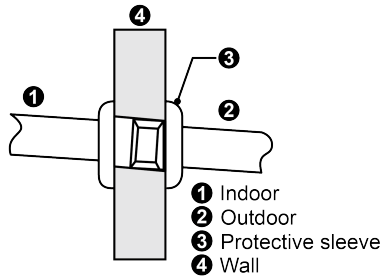

Figure 7-1 Refrigerant connecting pipe through the wall
- (1) If the water tank and the outdoor unit need to be connected by punching through a wall, a hole of $\Phi 55$ mm must be drilled in the wall and the hole should be inclined toward the exterior wall, as shown in Figure 7-1. Protective sleeves need to be put on both sides of the hole.